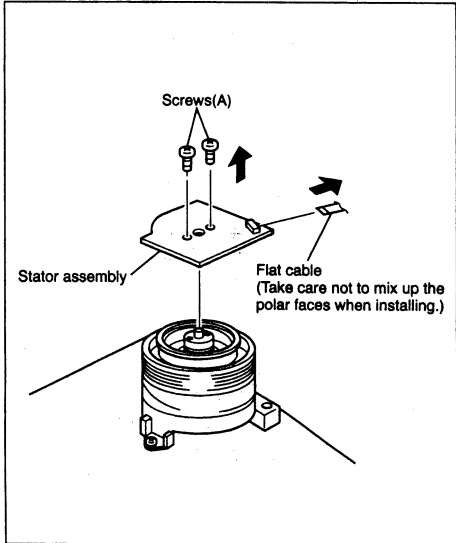

Fig. 2-2-41
- (6) After installation, gently turn the upper drum assembly with your hand to make sure that it turns normally. Then install the brush and the spring.
- (7) Install the rotor assembly and stator assembly according to Fig.2-2-41 and 2-2-42.
- (8) When installation is complete, clean the upper drum assembly and lower drum assembly and carry out the following adjustments.